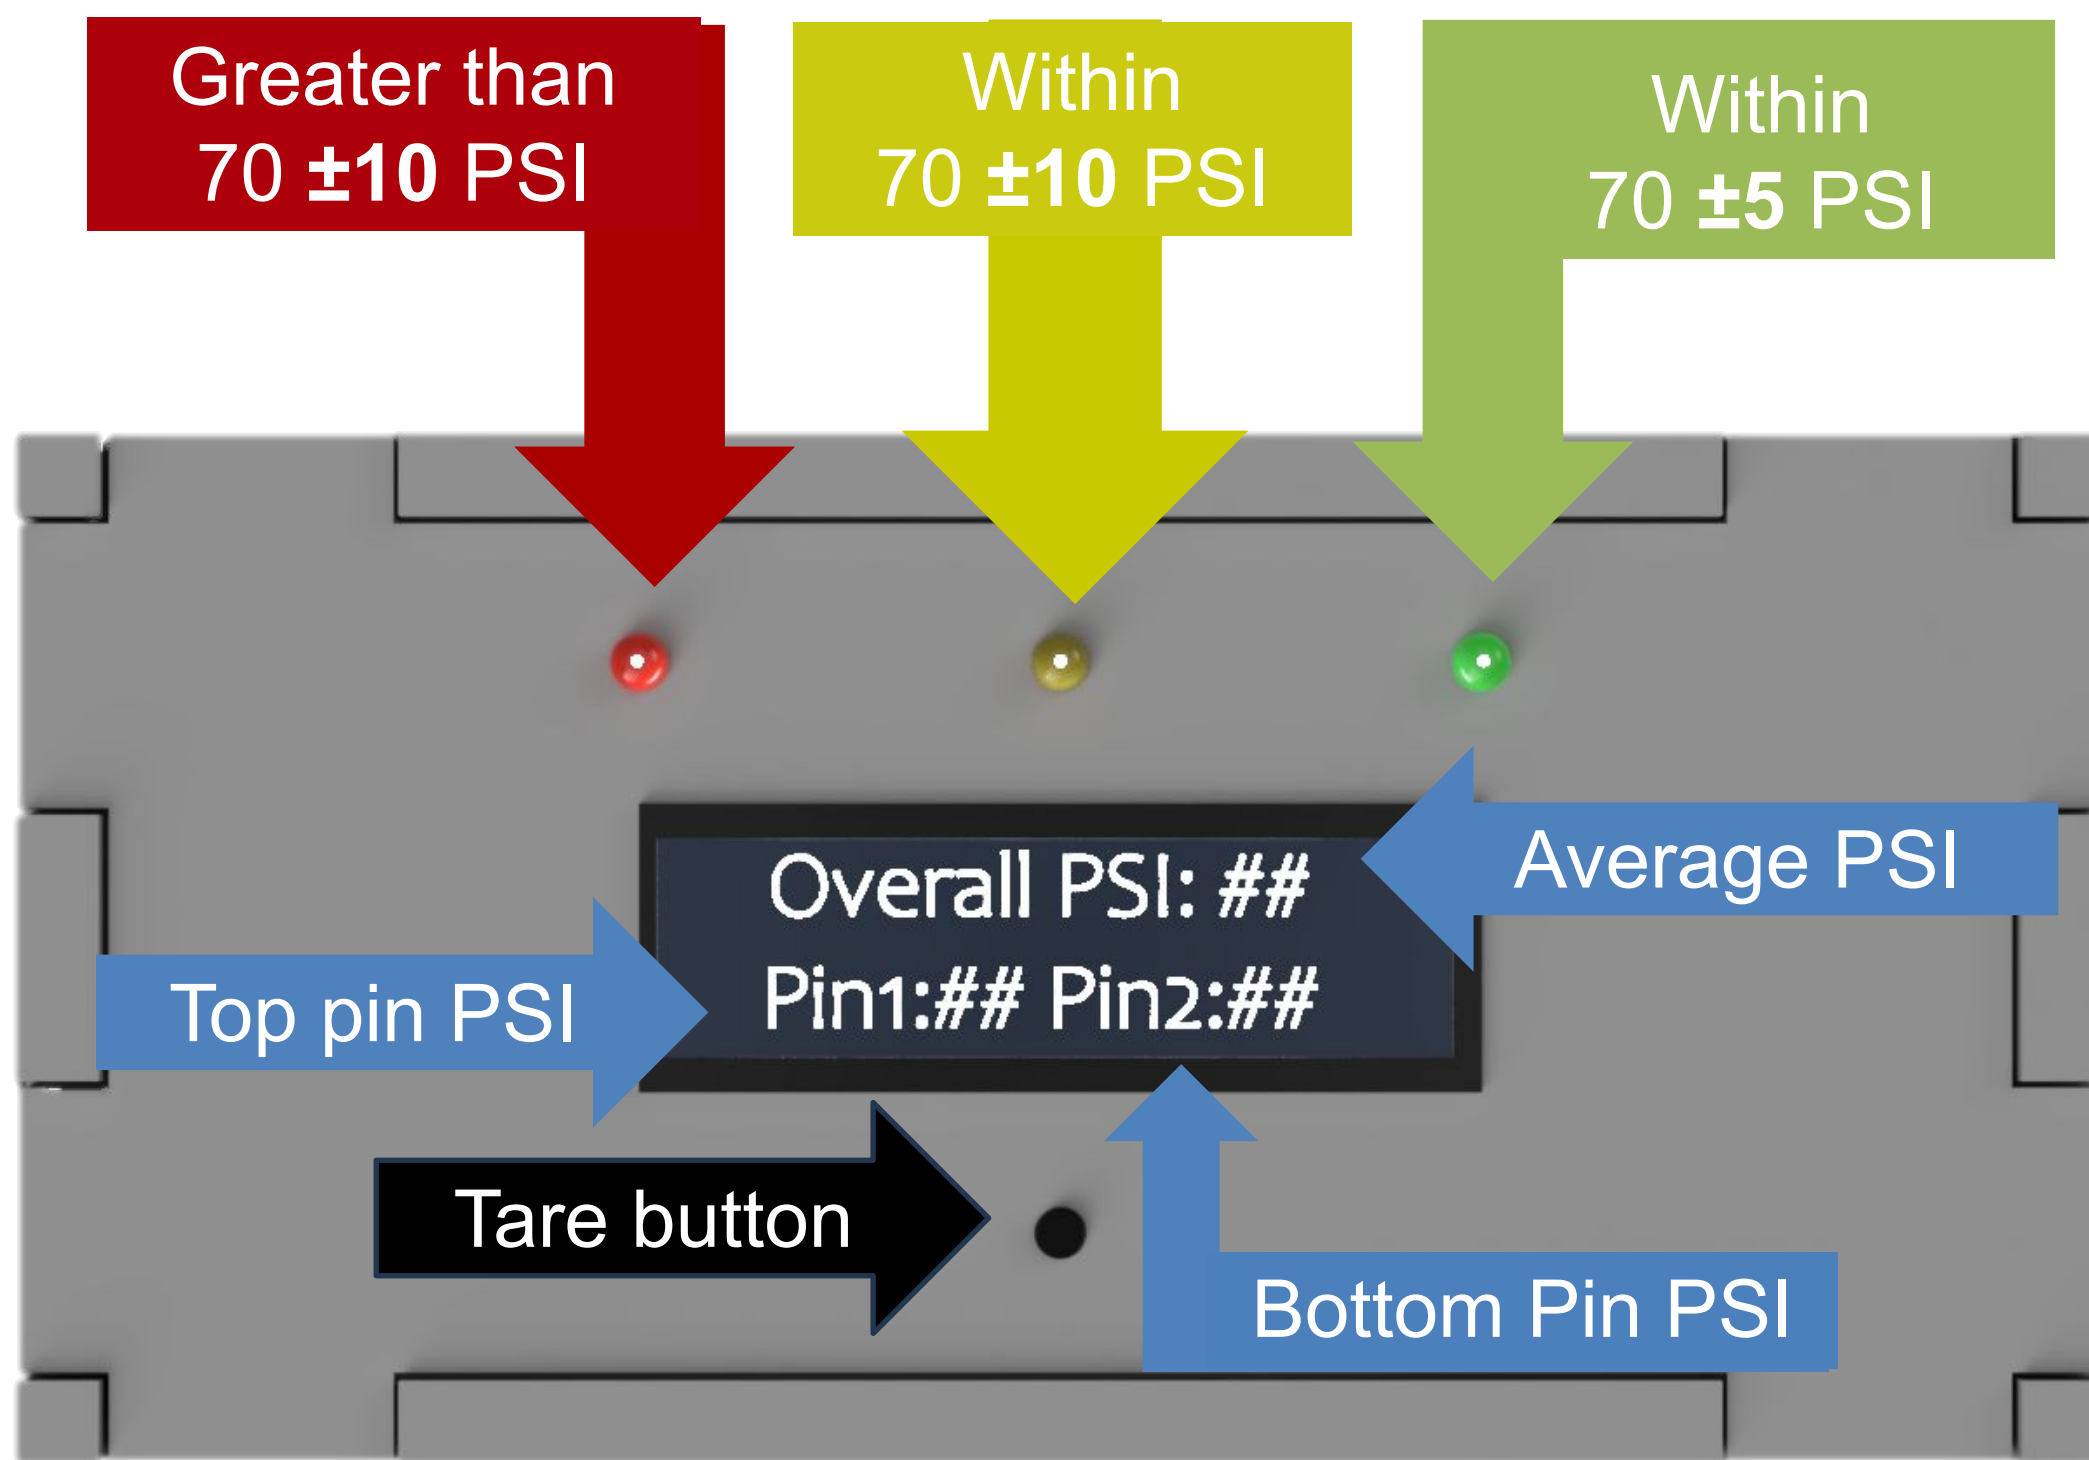

Figure 6:
- Screen & LED** to display pressure (in PSI) (Figure 6)